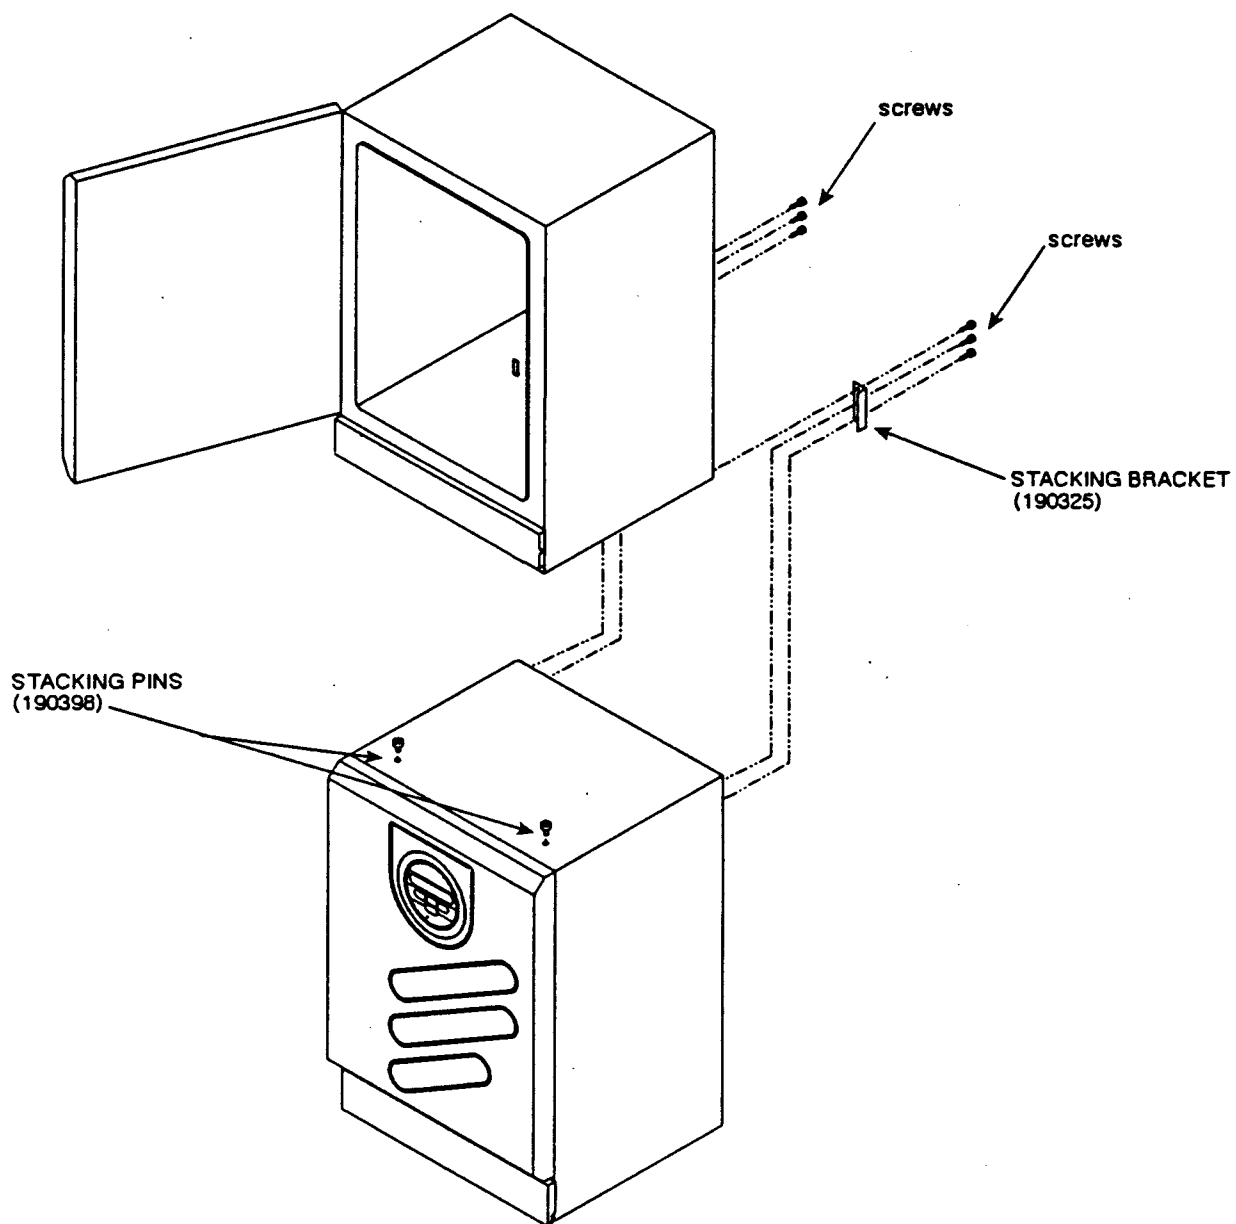
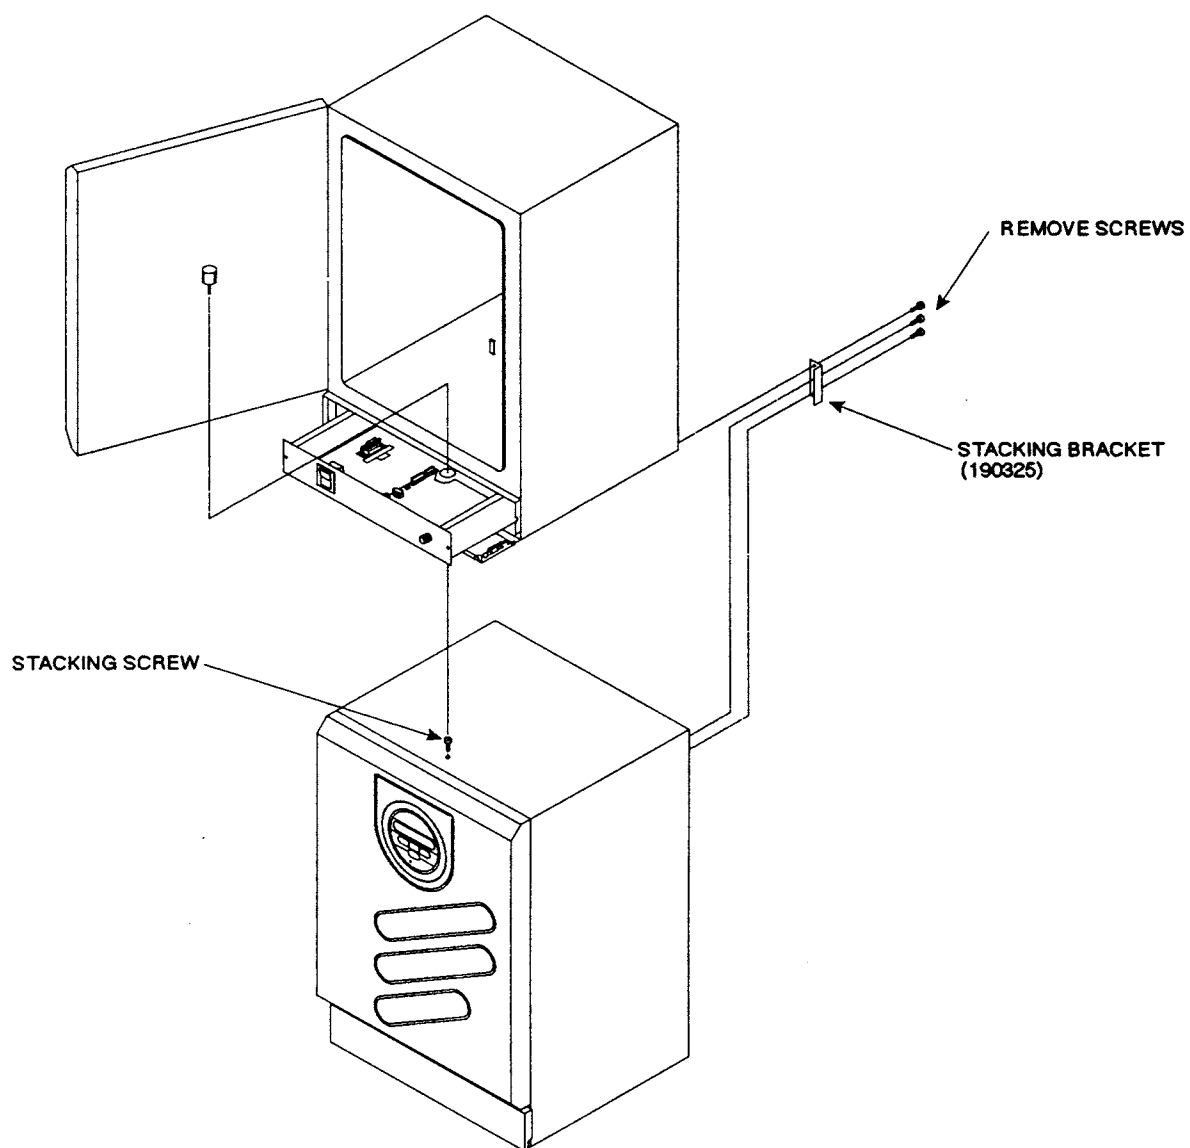

Figure 2.4
Figure 2.4a
2.7 Stacking the Incubators (Refer to Figure 2.4)
6. Attach the stacking brackets onto the back of the incubators using the screws and screw holes from step 6. . (Refer to Figure 2.4).
When stacking Release 1 and Release 2 incubators, the Release 1 unit must be placed on the bottom. The units are fastened together using the two stacking brackets on the back of the cabinets and a single stacking screw connecting the top unit to the bottom unit. refer to Figure 2.4 and Figure 2.4a.